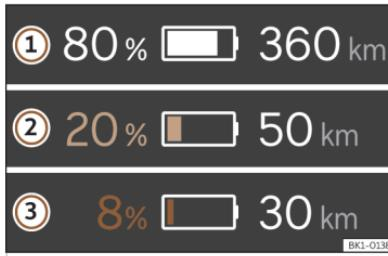

Fig. 20 On the digital instrument cluster: range and reserve indication.
The current state of charge of the high-voltage battery is indicated by the symbol on the digital instrument cluster **>>> Fig. 20 ①**. The battery symbol will be more or less full depending on the state of charge of the battery.
The vehicle range is displayed in kilometres (km) or miles (mi) depending on the selected setting **>>> Fig. 20 ②**.
Reserve area **>>> Fig. 20**